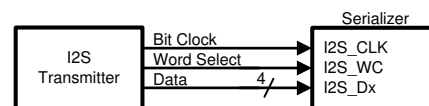

Figure 15. I²S Connection Diagram
The DS90UH949-Q1 serializer features six I²S input pins that, when paired with a compatible deserializer, supports 7.1 High-Definition (HD) Surround Sound audio applications. The bit clock (I2S_CLK) supports frequencies between 1 MHz and the lesser of IN_CLK/2 or 13 MHz. Four I²S data inputs transport two channels of I²S-formatted digital audio each, with each channel delineated by the word select (I2S_WC) input. Refer to Figure 15 and Figure 16 for I2S connection diagram and timing information.